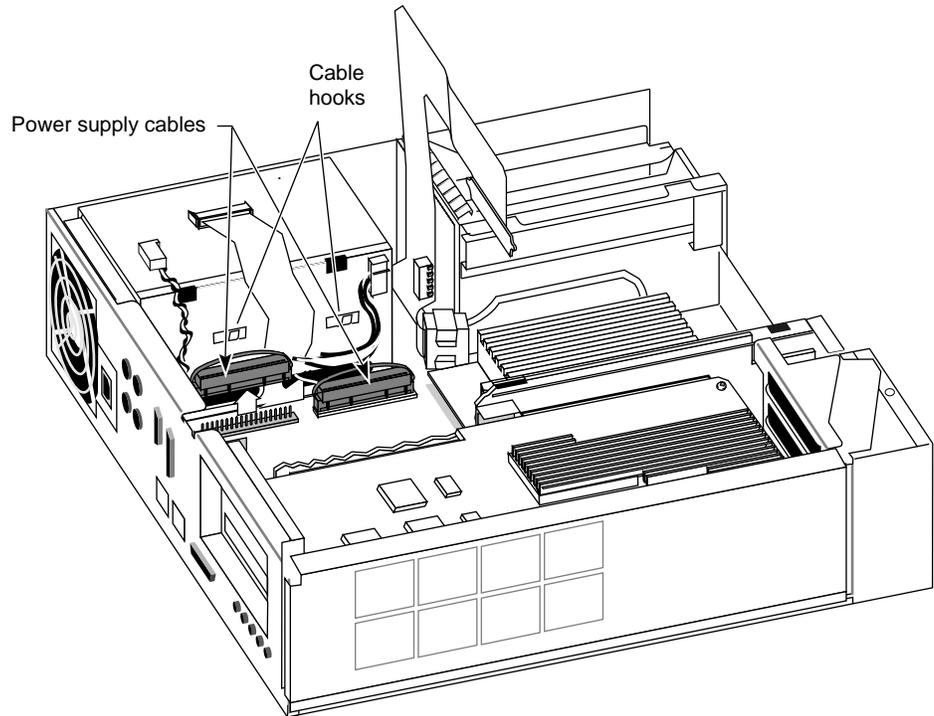

Figure 2-19 Connecting the Power Cables to the Baseboard
- Connect the two power supply connectors as shown in Figure 2-19. These connectors are not keyed, so make sure you align them correctly before pressing firmly with your thumbs to seat them.